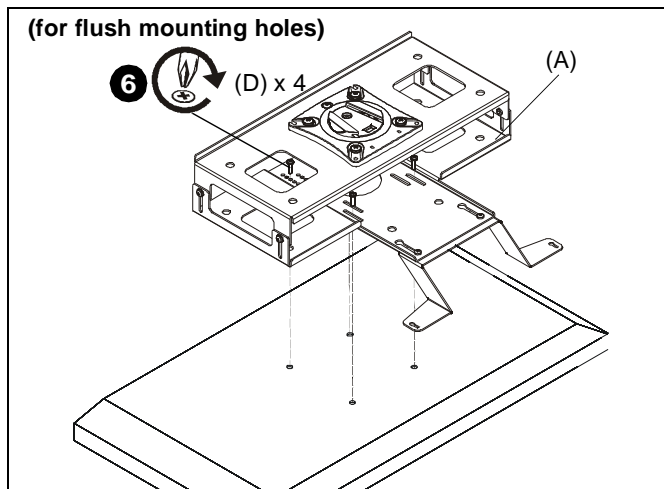

Figure 6
- Use four M4x14mm Phillips pan machine screws (D) to secure interface bracket (A) to back of display. (See Figure 6)